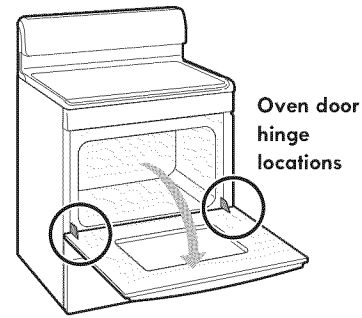

Figure 45: Oven hinge locations
1. Open oven door completely (horizontal with floor - Figure 45).
3. Fully open the oven door (horizontal with floor - Figure 45).